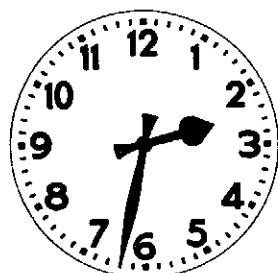

Fig. 1
Slave movement, Fig. 1 (for minutes or seconds) consists of an electro-magnet in the form of a coil (1) with a soft iron laminated core (2 & 3). The ends of the core are imparted magnetic polarity according to the direction of the current passing through the coil. The armature consists of two Z-shaped soft iron pieces (4 & 5) between which a permanent magnet (6) is located. Part 4 becomes the North and Part 5 the South pole of the magnet permanently.